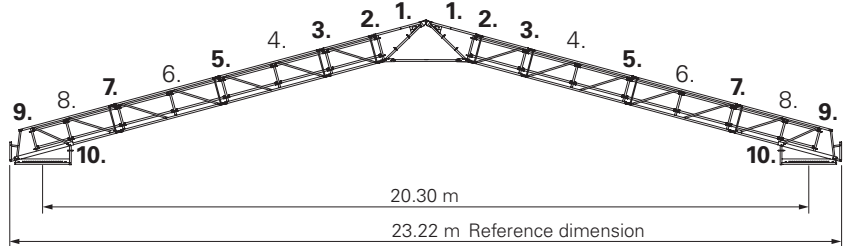

Fig. B1.04b
- without tension system (Fig. B1.04b).